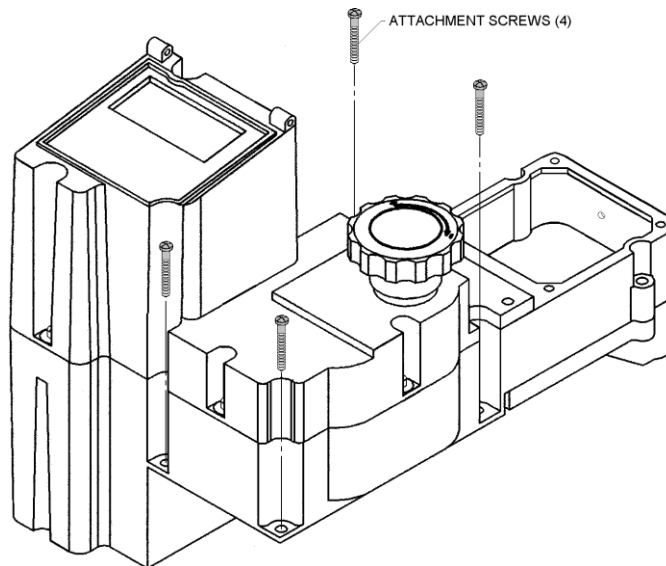

Figure 35 – DLC Removal for Replacement
8. Remove the four screws that hold the DLC to the PULSAR gearbox (refer to **Figure 35**).